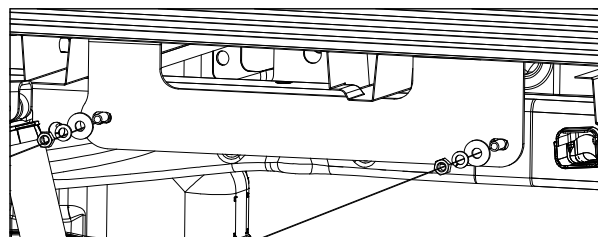

Figure C4: View looking into driver side wheel well.
- 3. Install the driver side plate.** Locate the driver side plate, two 1/2" flat washers, two 1/2" lock washers, and two 1/2" finish nuts. Thread the fish wires through the holes in the side plate. Guide the side plate into position. Use the fish wires to pull the carriage bolts into position and secure with the lock washers, flat washers, and nuts, see Figure C4. Hand tighten each nut.